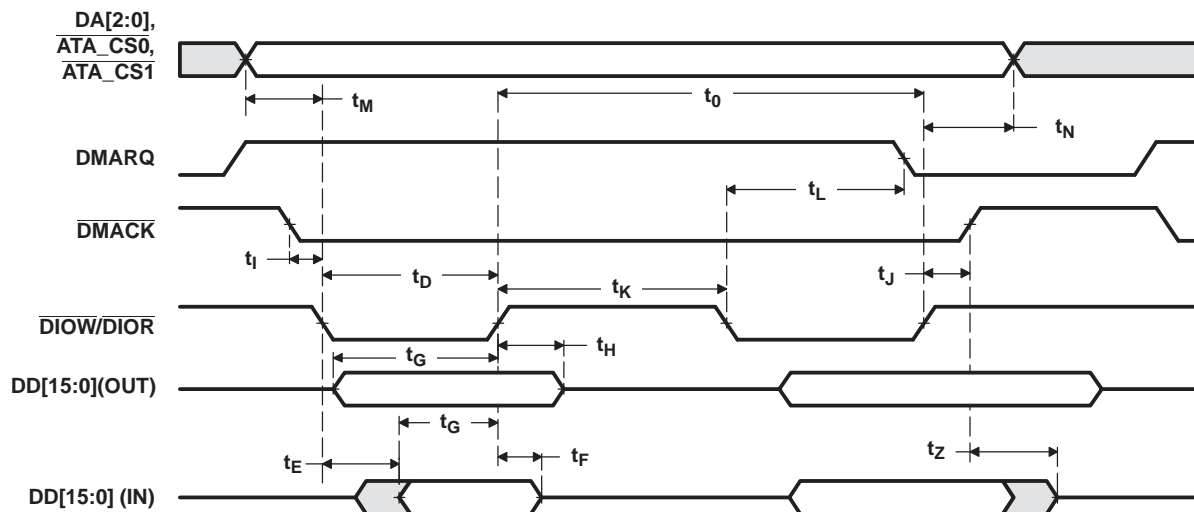

Figure 6-27. ATA/CF Multiword DMA Timing
**Table 6-40. Timings for ATA/CF Module — Multiword DMA AC Timing(1)(2) (see Figure 6-27)**